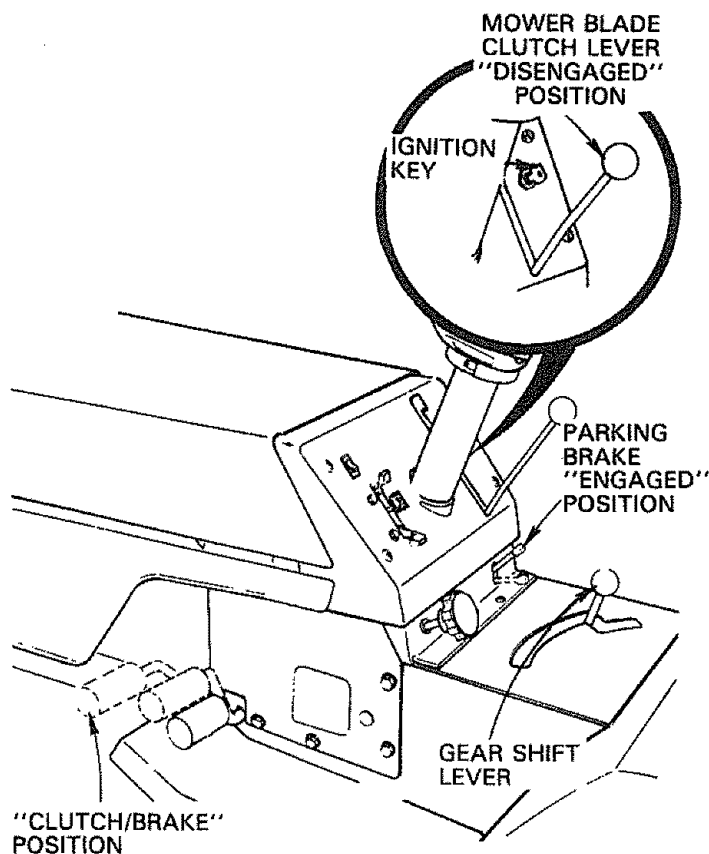

FIGURE 2
1. Turn ignition key (Fig. 2) to "OFF" position.
2. Push clutch-brake pedal completely into "BRAKE" position (Fig. 2).
3. Move gear shift lever (Fig. 2) to "NEUTRAL" position.
4. Place parking brake (Fig. 2) in "ENGAGED" position. Raise parking brake lever and hold in "ENGAGED" position. Release clutch-brake pedal.
5. Disengage mower blade clutch lever (Fig. 2 - Inset).